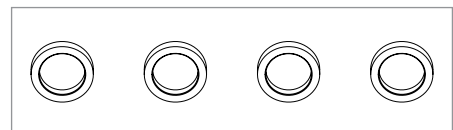

Figure 4 – 4030 Pivot Spacer Kit
- 4030 Ø12 x Ø16.5 x 3 Pivot Spacer Kit (Fig. 4)